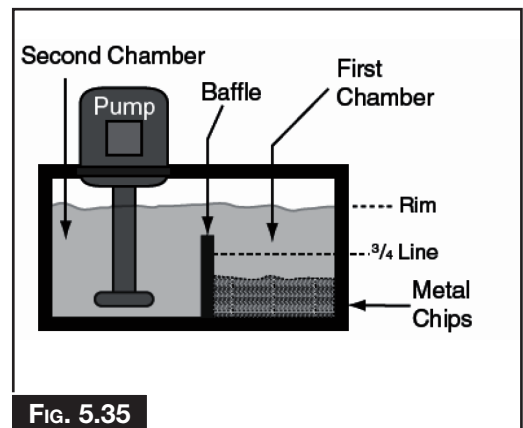

FIG. 5.35
4. Using a wooden stick, check the level of the metal chips in the first chamber (Fig. 5.35). If the chips are 3/4 the height of the baffle, then remove the chips.